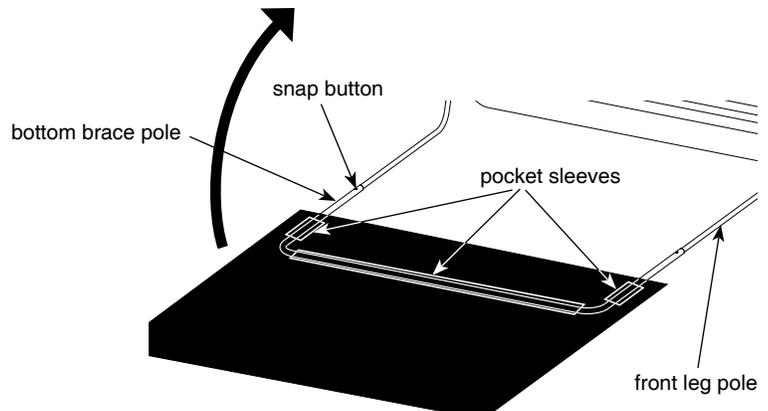

FIGURE 7
2. Unfold skin and locate the Eskimo logo near the zippered door, which is the front of the shelter. With front of shelter skin laying face down on the ground in front of shelter, locate the (3) fabric sleeves sewn to the bottom seam on front side of shelter. Slide bottom cross brace pole through the (3) fabric sleeves. Push the snap buttons inward to allow cross brace pole to go over "J-pipe" hinge poles. Snap into place. **SEE FIGURE 7.**